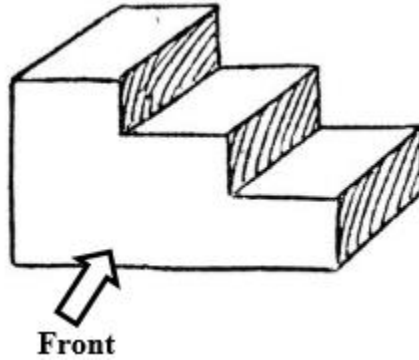

Figure 1
10. **Figure 1** illustrates a wooden block utilized for constructing steps. Sketch the plan and the front of the block. (4 marks)